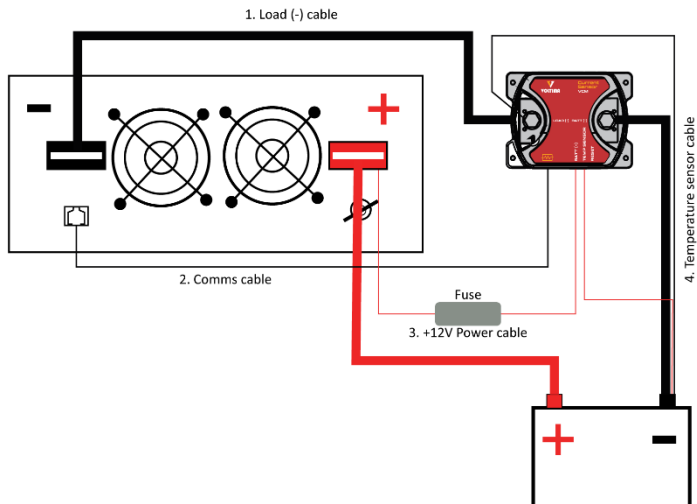

Fig. 1.
In order to enable the monitoring of the input current and the remaining operating hours, the optional current sensor should be mounted as shown in Fig. 1.
3. Now connect the **cables 1-4** (included with the power sensor) as in Fig. 1. shown at.